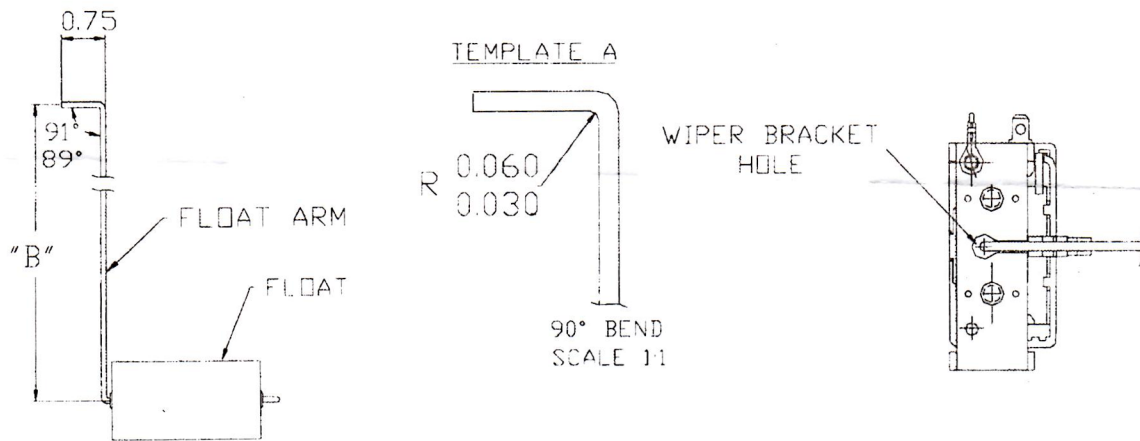

FIGURE 3
STEP 4B. Cut float arm to "B" + 0.75". (Example: A float arm for a 21" tank should be cut off at 12.75") Remove burrs. Bend float arm sharply at right angle (90°) when the float is flat in the horizontal position per the dimensions below (Figure 3). Use Template "A" below as a guideline. Insert this hook into the wiper bracket hole as shown in Figure 3 and snap firmly in place, being careful not to damage plastic wiper bracket. Straighten float arm if necessary.